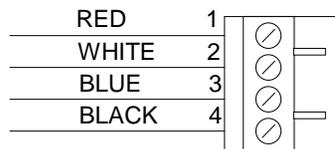

FIGURE 6-4. LAMP HOUSING
7. Refer to Figure 6-4. Remove the two screws, item A. Loosen the screw marked item B, and remove the lamp from the housing.
1. See Figure 6-4. The lamp can be moved vertically and horizontally by adjusting the clamp rod (item F). The lamp clamp (item G), secures the position of the clamp rod once alignment is done.
6. Display the "Sample A" screen (still in DIAGNOSTICS mode). Adjust the horizontal and vertical positions of the lamp and lamp housing until a maximum reading is displayed. Secure the lamp clamp (Figure 6-4, item G) and tighten the three lamp housing screws (Figure 6-3, item A).